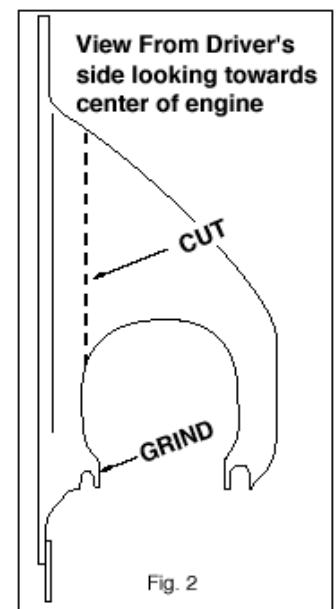

Fig. 2
15. ALL TUBULAR HEADERS require maintenance including periodically checking and retightening of the header bolts. The power steering pump must be freed from its bracketry in order to remove the driver's side manifold. This is due to the design of the power steering pump/alternator bracketry. The steel bracket is fastened to the exhaust manifold studs on both sides of the front exhaust port. The studs cannot be removed until the bracket is pulled outward from the engine. The bracket cannot be pulled outward until the power steering pump is removed from the aluminum bracket. Besides, the steel bracket needs to be removed to modify it anyway! In other words, yes you really do have to go through this step. Remove the top half of the fan shroud. Remove the serpentine belt. Using a pulley remover (Snap-On CJ117A or equivalent), remove the power steering pump pulley. The three bolts on the front of the power steering pump may now be removed. Remove the bolt going from the black steel bracket into the back of the alternator. Remove the nuts holding the black steel bracket to the head on both sides of the number one exhaust port. The black steel bracket is still attached to the back of the power steering pump. The pump assembly should be loose enough to wiggle outward from the engine such that the remaining two nuts holding the steel bracket to the back of the pump can be removed. The black steel bracket should now be free. Remove the steel bracket. Using a hack saw, abrasive cut-off wheel, or band saw, cut the bracket as shown in figure 2. Grind the bracket for clearance as indicated in Fig 2. Clean up the edges with a file or sander and repaint.